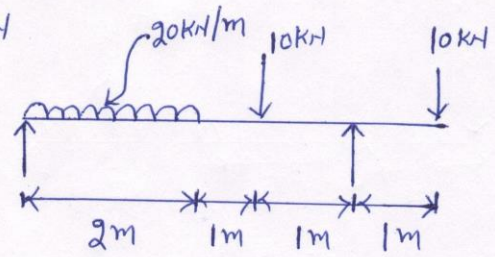

Figure-2 Q-3(c) OR
- (c) Draw Shear force and Bending Moment Diagram for Figure -2 **04**